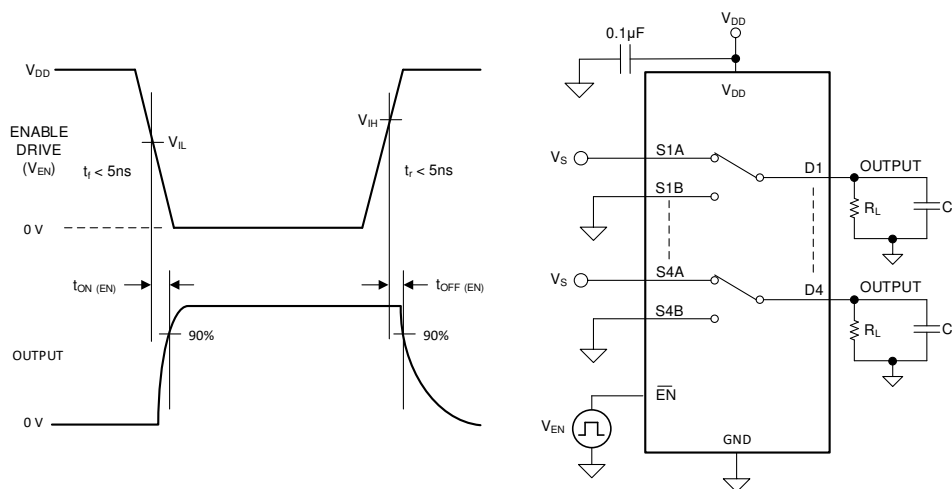

图 32.  $t_{\text{ON (EN)}}$  and  $t_{\text{OFF (EN)}}$  Time Measurement Setup
The  $t_{\text{ON (EN)}}$  time is defined as the time taken by the output of the device to rise to 90% after the enable has fallen past the logic threshold. The 90% measurement is used to provide the timing of the device being enabled in the system. 图 32 shows the setup used to measure the enable time, denoted by the symbol  $t_{\text{ON (EN)}}$ .
The  $t_{\text{OFF (EN)}}$  time is defined as the time taken by the output of the device to fall to 90% after the enable has fallen past the logic threshold. The 90% measurement is used to provide the timing of the device being disabled in the system. 图 32 shows the setup used to measure enable time, denoted by the symbol  $t_{\text{OFF (EN)}}$ .